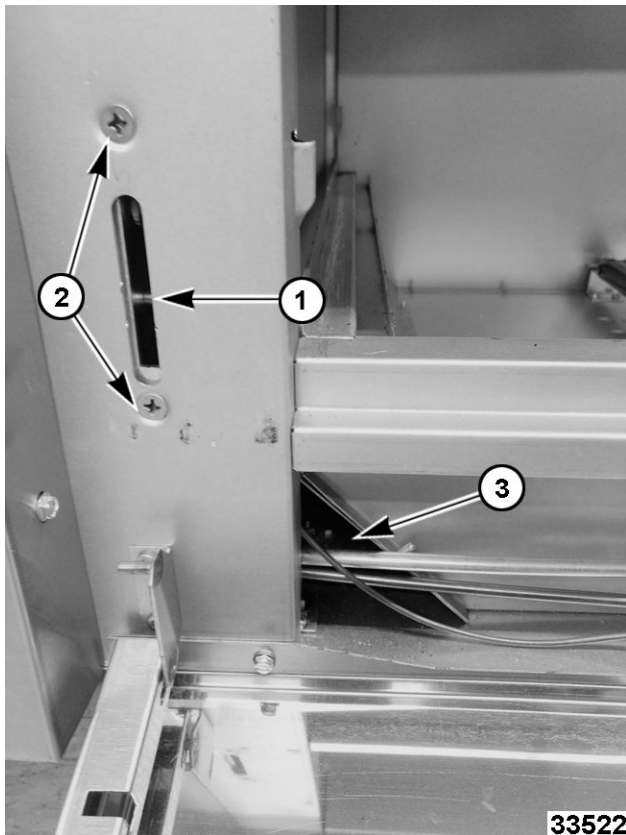

Fig. 41
- Tie string or flexible wire around pin or roller (1, Fig. 41).
3. Remove stop bracket from oven frame (2, Fig. 41).
4. Slide stop bracket down cavity channel and out through opening (3, Fig. 41).